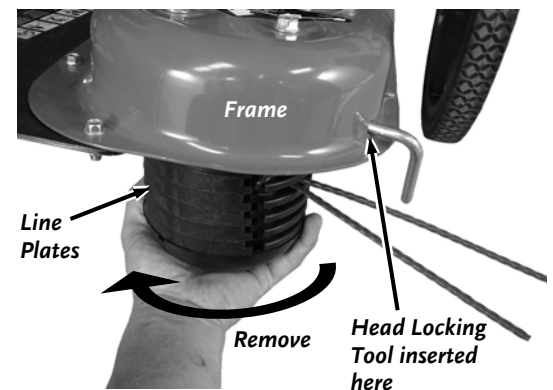

Figure 2
1. Insert the Head Locking Tool or Screwdriver into the hole in the Frame and rotate the Mow-Ball® Support Assembly until the tool slides into a second hole in the shaft, locking it into place (**Figure 2**).